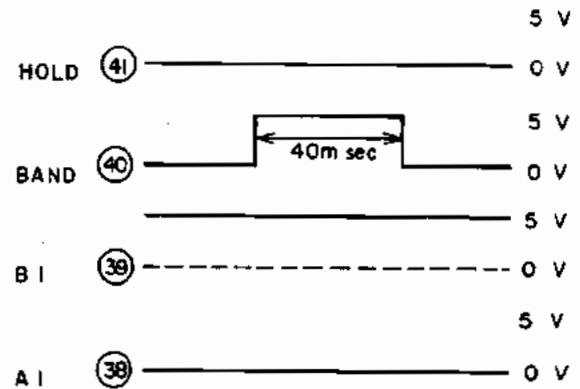

Fig. 1-7 Output Data of AA-100 Pin ③⑧ to ④① (When press the BAND key)
If the same function key is pressed a second time, no change occurs in the output of Pins ③⑧ to ④① of AA-100, except that if the BAND SELECTOR key is pressed repeatedly in tuner mode, the pulse of 40 msec is output at Pin ④② while the S2 (switch for tuner) ON data remains unchanged at Pins ③⑧ and ③⑨ as shown in Fig. 1-7. That is, it will turn ON the BAND SELECTOR key equivalent of the tuner key matrix and the band is switched in the sequence ... FM, LW, MW, FM ...